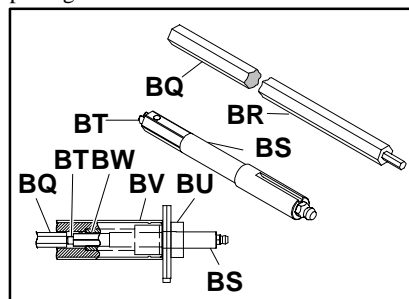

Figure 21
Removal of the outboard drive shaft (BS of Figure 21) requires use of Dorner hex key wrench extension tool (BR), part number ★25-08.